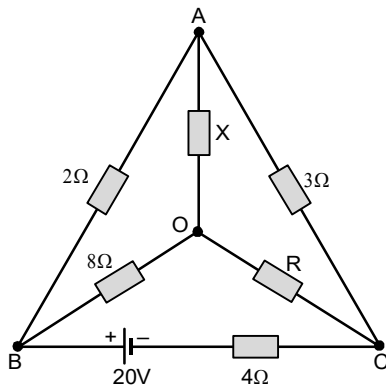

Fig.1.59: Given network
4. Find the value of R and the current through it in the network shown in fig.1.59, when the current is zero in branch OA . (Ans. 6Ω , $0.5A$)